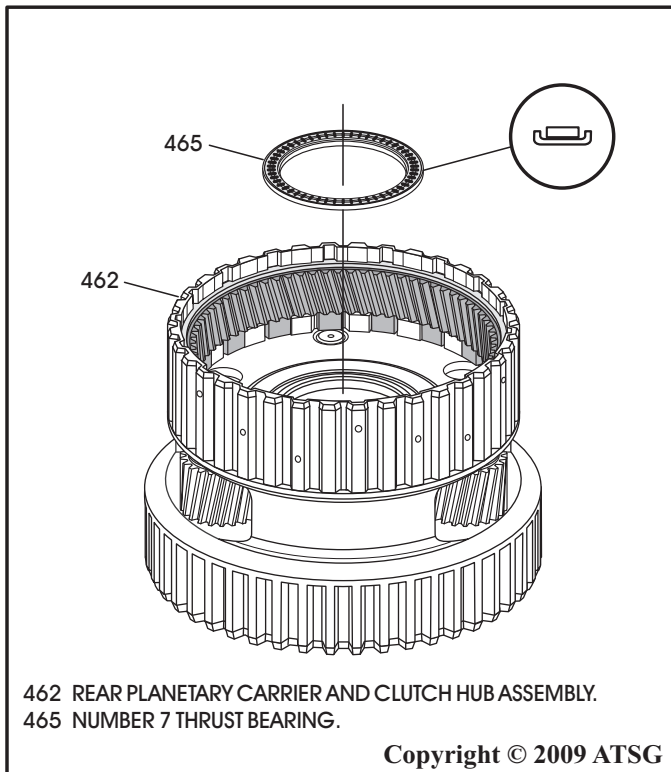
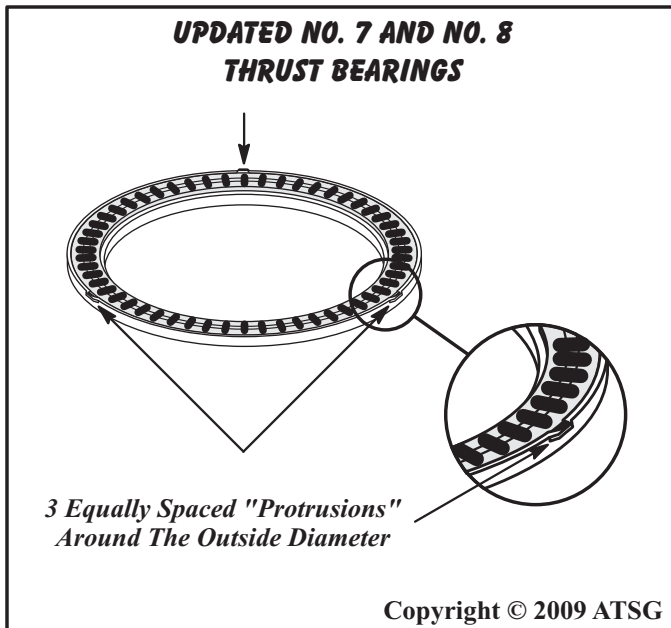

Figure 141
Figure 142
41. Install the number 7 thrust bearing, as shown in Figure 141, by hand pressing into place. *Note: The number 7 and number 8 thrust bearings have been updated with three small protrusions stamped into the outer bearing race and spaced equally around the outside diameter, as shown in Figure 142. This was done to prevent the outer race from turning in the rear carrier and clutch hub assembly. This increased durability by decreasing the planetary failures seen in the past.*